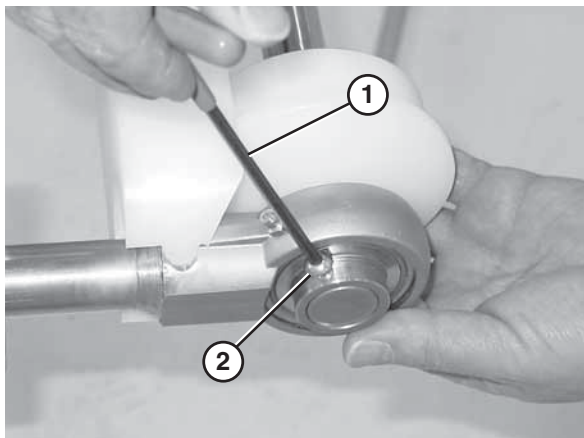

Figure 78
7. Use a hex wrench (**Figure 78, item 1**) to tighten the bearing shaft fasteners (**Figure 78, item 2**).